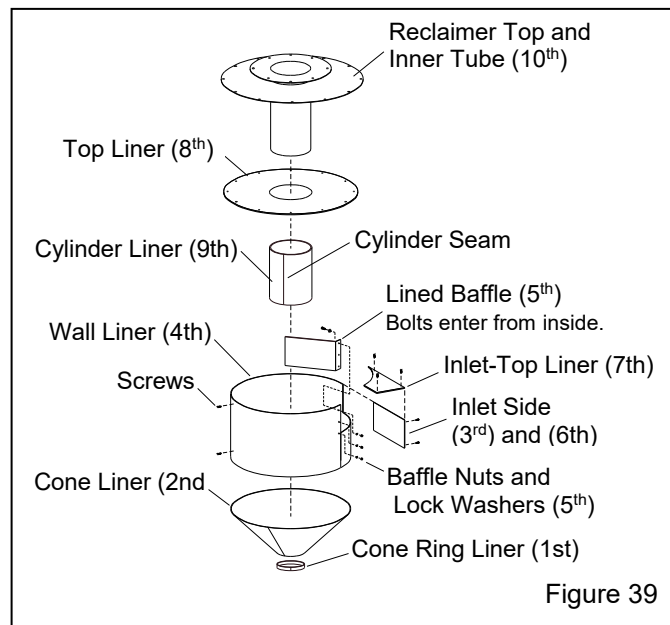

Figure 39
### 7.13 Replacing or Installing Rubber Reclaimer Liners – Figure 39
**Installation Notes:** The numbers in parentheses (-) shown in Figure 39 and in the following applicable paragraphs show the recommended order of installation. When installing the liners, make sure that seams are aligned. The final assembly must be smooth and free of protrusions, edges, and gaps. Any edges will disrupt the air flow, causing wear and affecting the reclaimer's media cleaning efficiency.